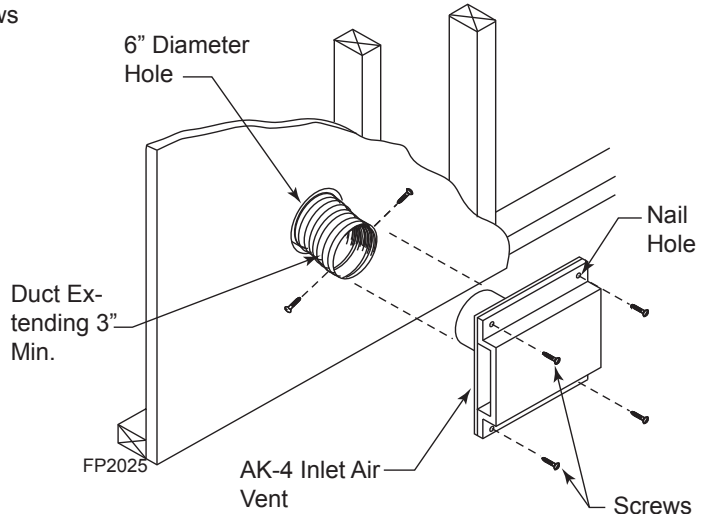

Figure 14 - Combustion Air Assembly for Model No. OAC-4
3. Cut a 6" diameter opening for model OAC-4 in the outside wall covering where the outside vent is to be located. *Figure 14*
5. If using insulating duct, push the insulation back from one end of the duct approximately 2". *Figure 14*